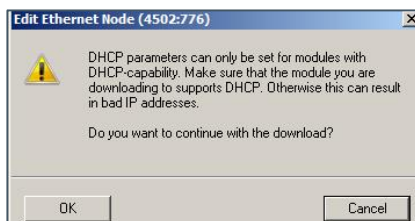

Figure 73: Confirm that the PROFINET gateway supports DHCP
- 2) Click **OK** to confirm that the PROFINET supports DHCP (see: Figure 73: Confirm that the PROFINET gateway supports DHCP).